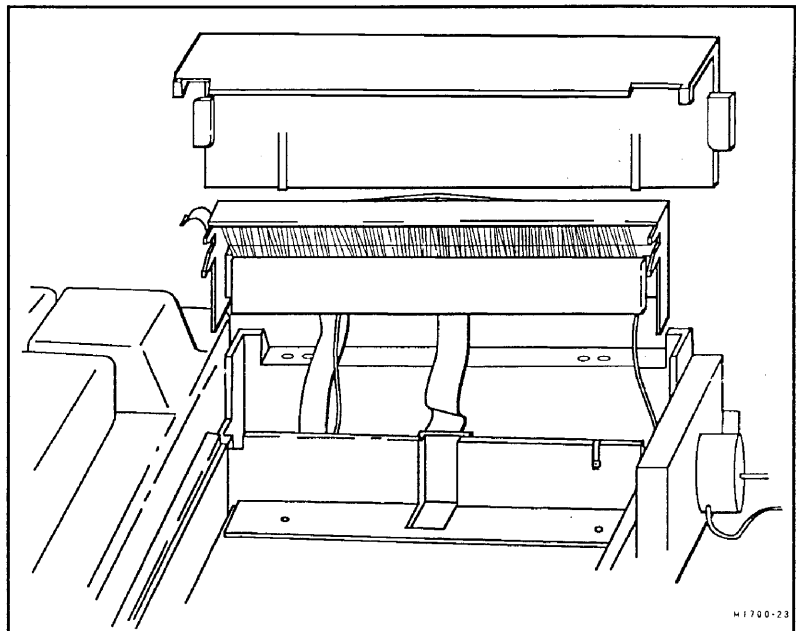

Figure 7-7. Removing the Printhead Cover.
3. Lift off the printhead cover as shown in Figure 7-7. As you lift off the cover, note how the tabs on the printhead cover interlock with the other plastic parts of the top cover.